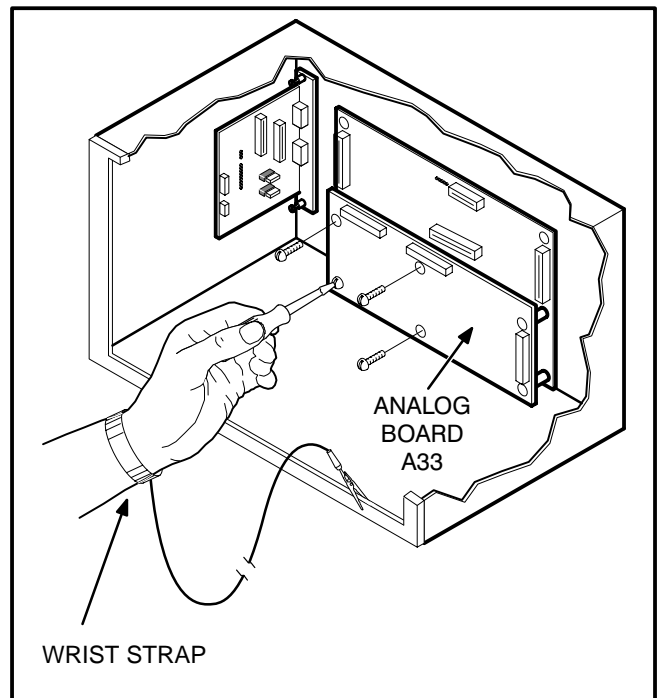

FIGURE 3-1. PREPARING FOR INSTALLATION
The PowerCommand Serial Communications Interface Board is mounted inside the PCC cabinet on top of the analog board (Figure 3-1). The Serial Cable Interface Board is located outside the generator set connection box. Refer to the installation instruction section.
Attach the wrist strap clip to a clean unpainted surface of the control box (see Figure 3-1) and place the strap around your wrist before handling a circuit board.
4. Open the control box door. Connect the wrist strap ground clip as shown in Figure 3-1.
5. Use a Phillips screwdriver to remove the four leftmost analog board mounting screws shown in Figure 3-1.